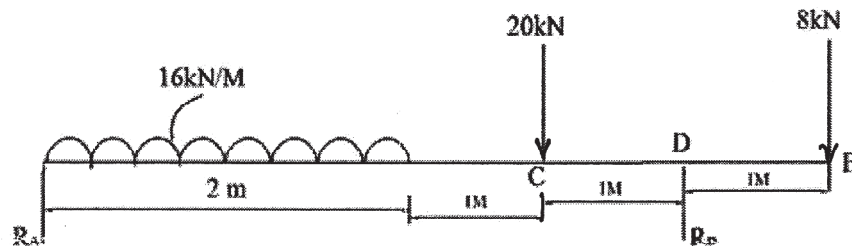

Figure 6.1
6. (a) An overhang beam ABCDE is supported at A & D. DE = 1 m overhang BC = CD = 1 m, AB = 2 m. Position AB is subjected to UDL 16 kN/m. At C a point load of 20kN is acting. At E a point load 8 kN is acting. Draw SFD & BMD. Locate point of contra flexure calculate maximum Bending moment. Refer figure. 6.1 [7]